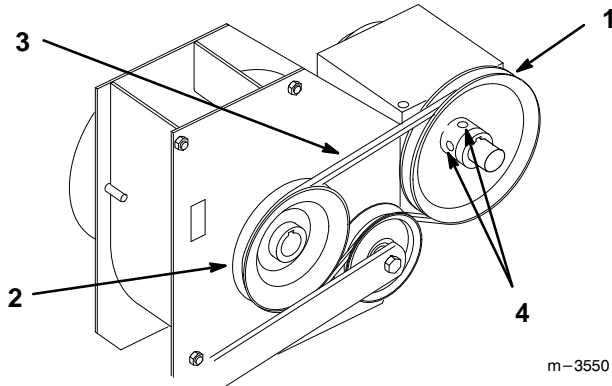

Figure 7
6. Place blower drive belt around PTO and blower pulleys before bolting blower assembly to traction unit frame (Fig. 7).